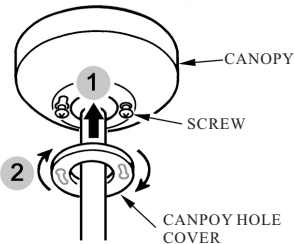

FIG.11
- 5. Place the canopy hole cover over the screws and twist the cover to tighten. (See fig.11)